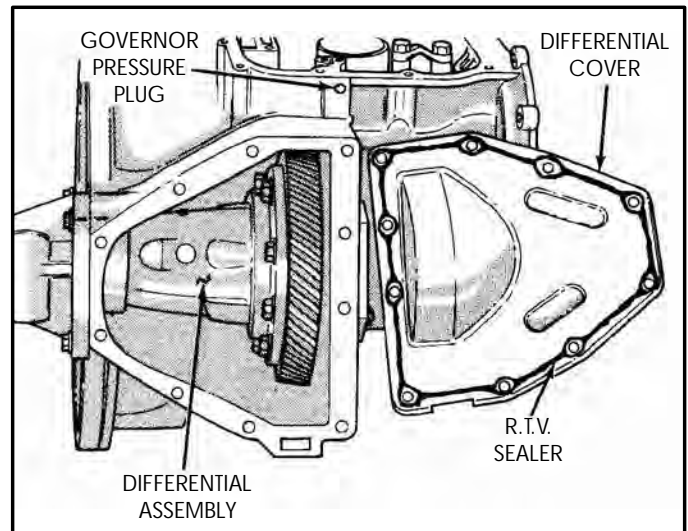

Figure 183
15. Apply a 1/8" bead of R.T.V. to the differential cover, as shown in Figure 183.